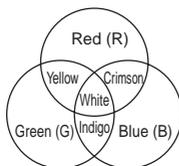

Fig. 2-11
It expresses color by the mixed ratios of the three basic colors of light, red (R), green (G), and blue (B). (See Fig. 2-11.)